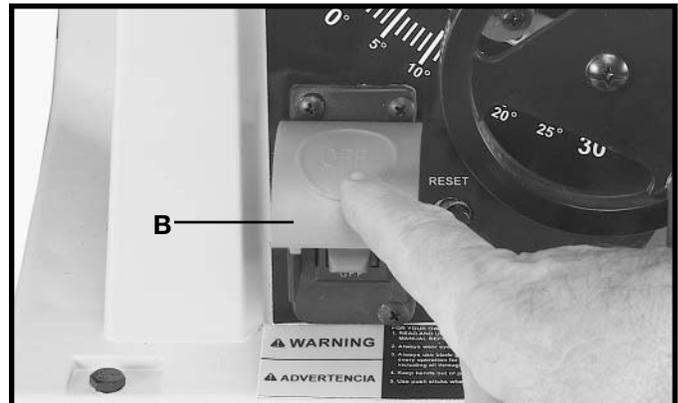

Fig. 42
2. To turn the saw **“OFF”**, push down on switch shield (A) Fig. 42.